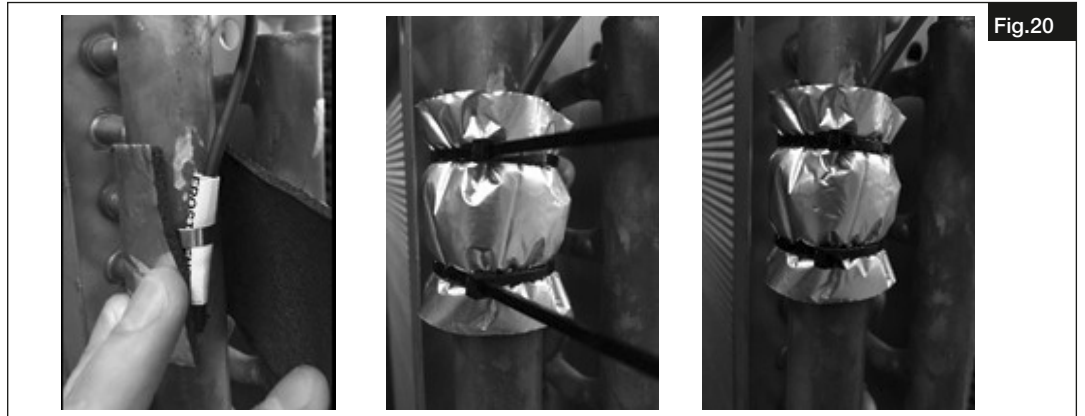

Fig.20
- Cut the insulating material to size and check whether the insulating material covers the sensor. Attach the insulating material, as shown, around the sensor on the outlet pipe (see Fig.20). Use the two provided cable ties for this purpose. Cut off the excess ends of the cable ties.